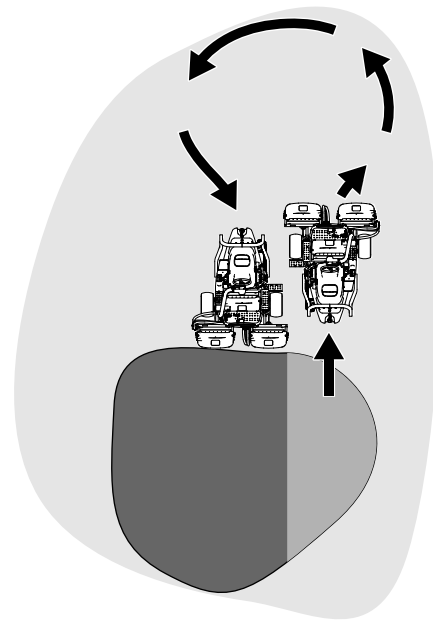

Figure 24
6. To cut down on operating time and to ease the lineup for the next pass, momentarily turn the machine in the opposite direction, then turn it in the direction of the uncut portion. This movement is a tear-shaped turn (Figure 24),